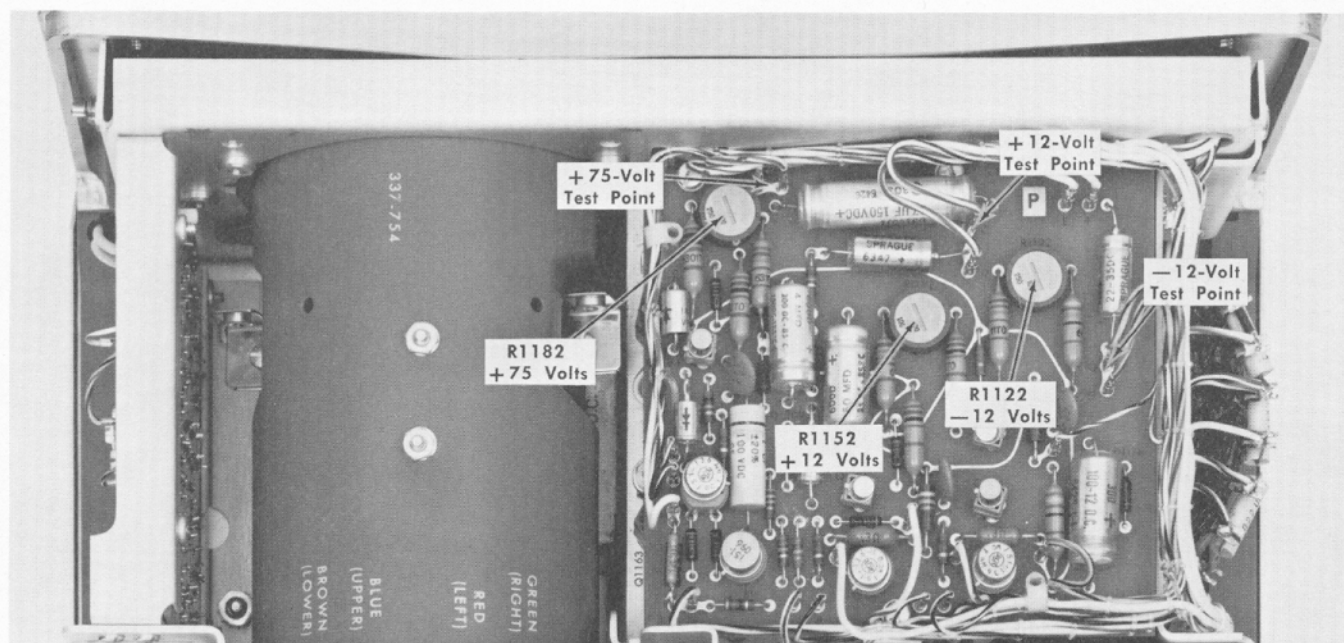

Fig. 6-5. Low-voltage test points and adjustment (Low-Voltage Regulator board).
- Connect the precision dc voltmeter from the —12-volt test point (pin connector 'G', Low-Voltage Regulator board; see Fig. 6-5) to chassis ground.
- Adjust— —12 Volts adjustment, R1122 (see Fig. 6-5), for —12 volts.
- e. Adjust— +12 Volts adjustment, R1152 (see Fig. 6-5), for +1 volt.
- i. Connect the precision dc voltmeter from the +12-volt test point (pin connector 'C', Low-Voltage Regulator board; see Fig. 6-5) to chassis ground.
- b. Connect the precision dc voltmeter from the +75-volt test point (pin connector 'B', Low-Voltage Regulator board; see Fig. 6-5) to chassis ground.
- d. Adjust— +75 Volts adjustment, R1182 (see Fig. 6-5), for +75 volts.
230-volts nominal). Power-supply test points are shown in Fig. 6-5. Fig. 6-8 shows typical test oscilloscope display of ripple.